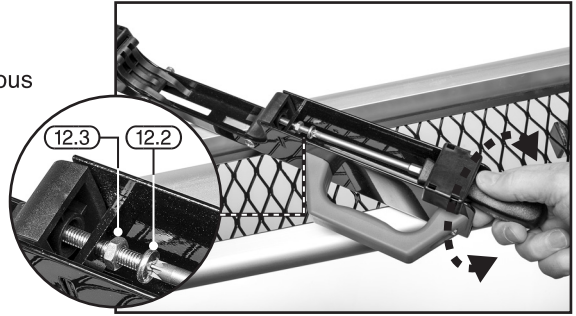

FIG.9
8.5 MOUNTING A MITRE SAW – FIGS.9 – 16